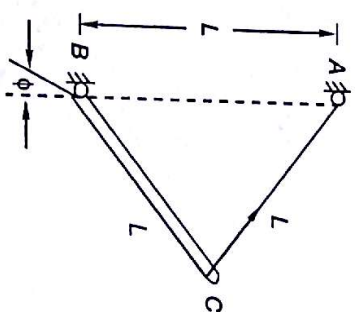

Fig. 3.65
3.8 A bar of uniform section, length L and mass mg is held in position by a string of length L . Distance AB is also L . What is the direction of reaction at B with the vertical? What is angle ϕ ? (Fig. 3.65).